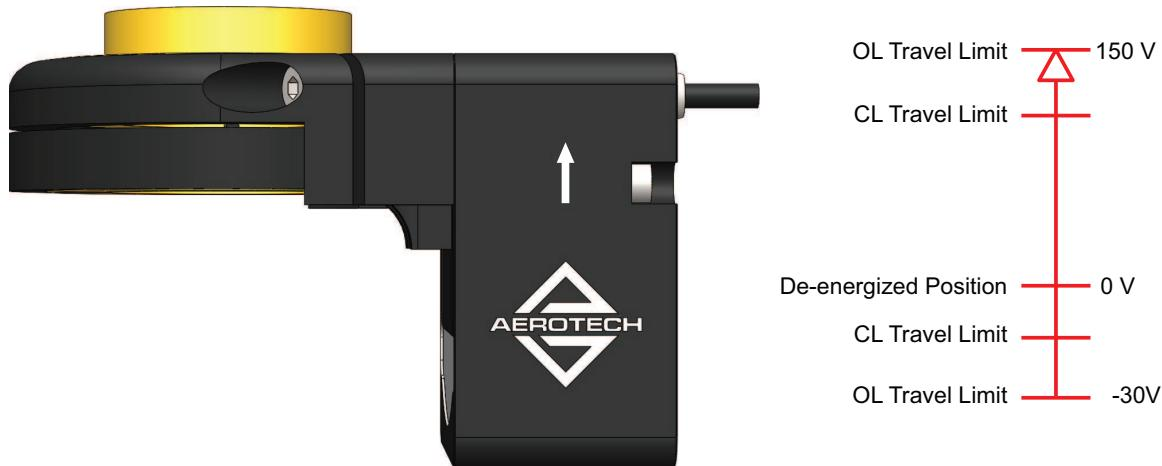

Figure 1-1: Single-Axis Stage Travel and Voltage Relationship
All QF50Z stages with feedback (-C option) have an open-loop (OL) and closed-loop (CL) travel range (refer to Section 1.4.). This refers to whether the stage is using feedback control (CL) or not (OL). QF50Z stages purchased without feedback have an open-loop travel range only. The open-loop range is the travel that can be achieved over the entire -30 to 150 V operation range. When the stage is in closed-loop (servo on), it requires over-travel to account for a variety of operational conditions, so the closed-loop range is smaller. Refer to Figure 1-1 for an illustration of QF50Z stage travel ranges. QF50Z stages with the -C option are calibrated at the factory for optimal linearity over the specified closed-loop range only.